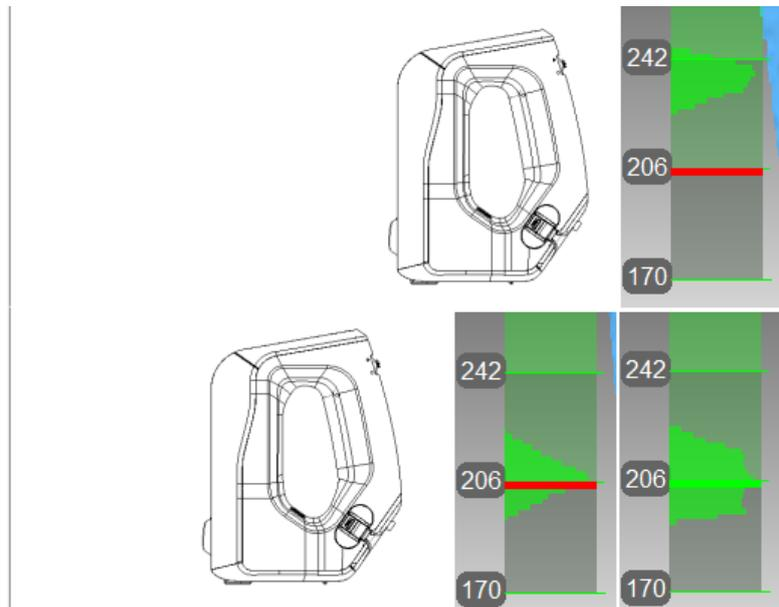

Figure 131: Artec Spider scanner's position and corresponding distance on the range meter.
7. Move the scanner smoothly toward the flat surface such that the histogram peak coincides with the red mark on the range meter (see Figure 131).